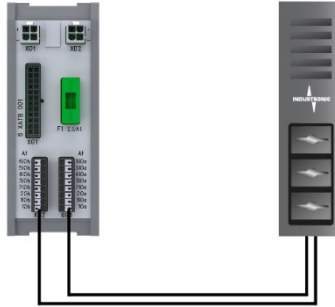

Fig. 6-4: XATB to audio component (e.g. analog intercom station)
2. Connect the incoming cables of the audio components to terminals XG2 and XG3 of terminal block XATB (→ Fig. 6-4 and chapter 6.4.3, page 50).